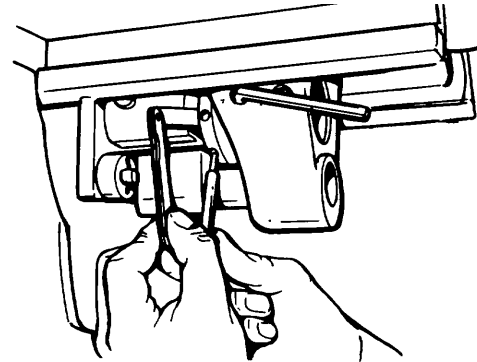
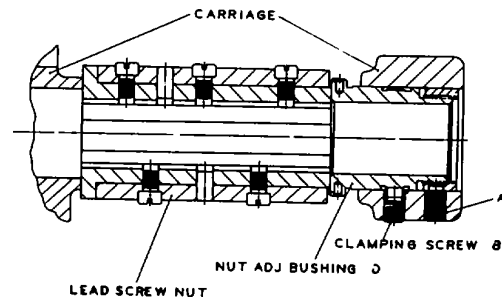

Figure 9
Figure 10
(1) After extensive usage, the two leadscrew nut segments may wear to permit excessive end play between the carriage segments. This end play could result in lead error.
(2) To adjust the leadscrew nut mechanism for end play, remove the outboard leadscrew bearing and move the carriage rearward until approximately one half of it extends over the bed ways, Figure 9. Engage the leadscrew nuts and loosen clamping screw B, Figure 10. (Do not loosen screw A). Rotate the nut adjusting bushing D, using a short pin.
(3) Correct adjustment allows .002" to .003" end play.
(4) After making such an adjustment, open and close the leadscrew nuts several times making certain the action is smooth and the nuts do not bind.